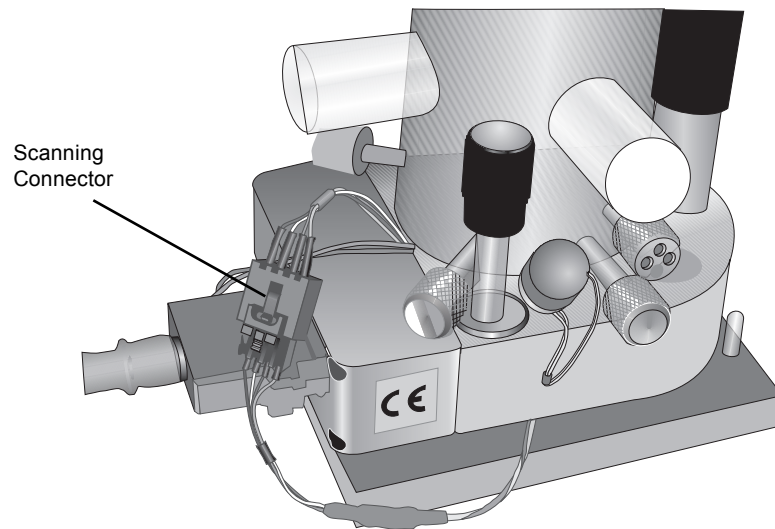

Figure 2.2
5. Connect the additional scanner wiring harness to the connector on the top of the μTA 2990 head; see Figure 2.2.